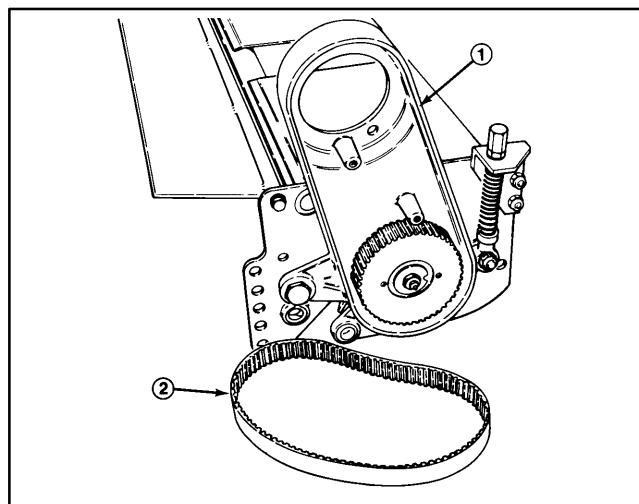

Figure 22
4. Disassemble cone nut from the shoulder bolt securing the bearing housing to the side plate. Remove belleville washer and bolt. Slide bearing housing off the reel shaft (Fig. 22).
5. Disassemble cone nut from the shoulder bolt securing the bearing housing to the side plate, remove the belleville washer and bolt and slide the bearing housing off the reel shaft (Fig. 22).
10. Ensure slot in the pulley washer is aligned with the roll pin in the pulley and install the washer, toothed washer and reel capscrew (Fig. 22). Apply a medium strength thread locking compound to the reel capscrew during assembly. Torque the capscrew to 45 to 55 ft-lb (6.2 to 7.6 kg-m).